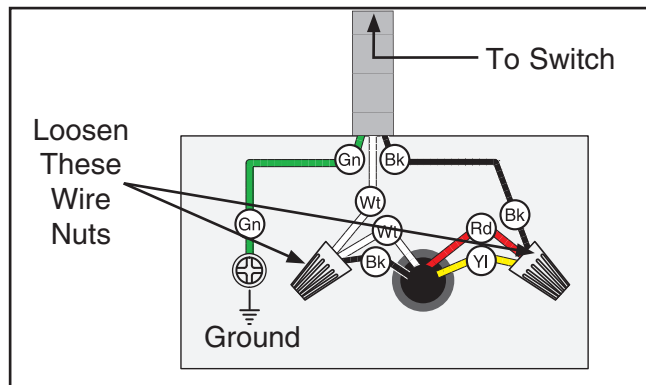

Figure 7. Inside motor junction box.
3. Open motor junction box, then loosen two wire nuts indicated in **Figure 7**.